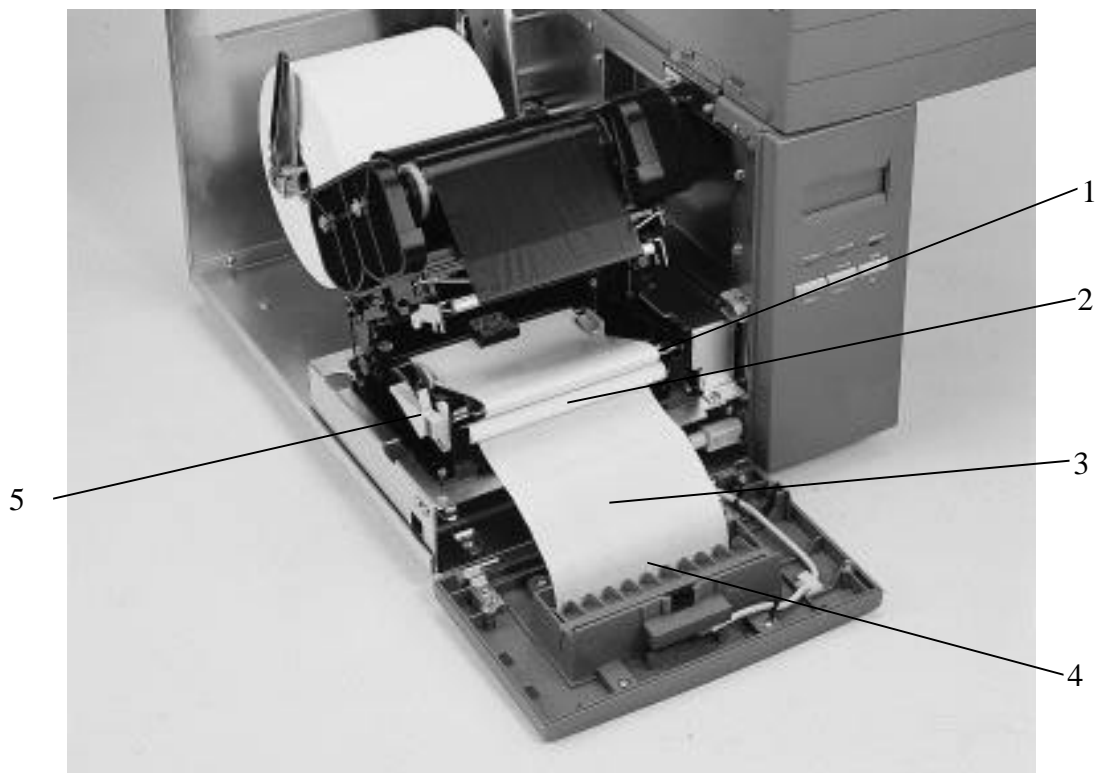

Figure 6. Setting Up Printer for Self-Peeling Function
2. Tear off the foremost one or two labels of the label stock, as befits the case. Feed the backing paper between the platen and the white “self-peeling” roller, as shown in Figure 6.